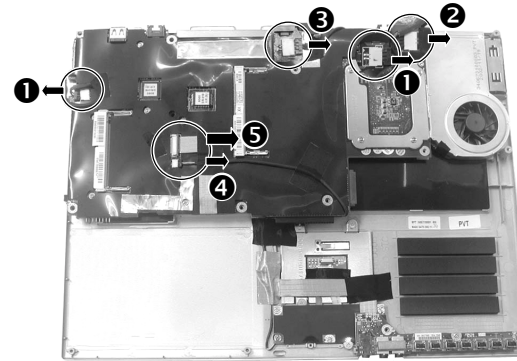

Figure 2-20 Disconnect all the cables and wires
5. Disconnect the two speaker cables (❶); MDC wire (❷); cover switch cable (❸); MIC wire (❹); Audio cable (❺). (Figure 2-20)